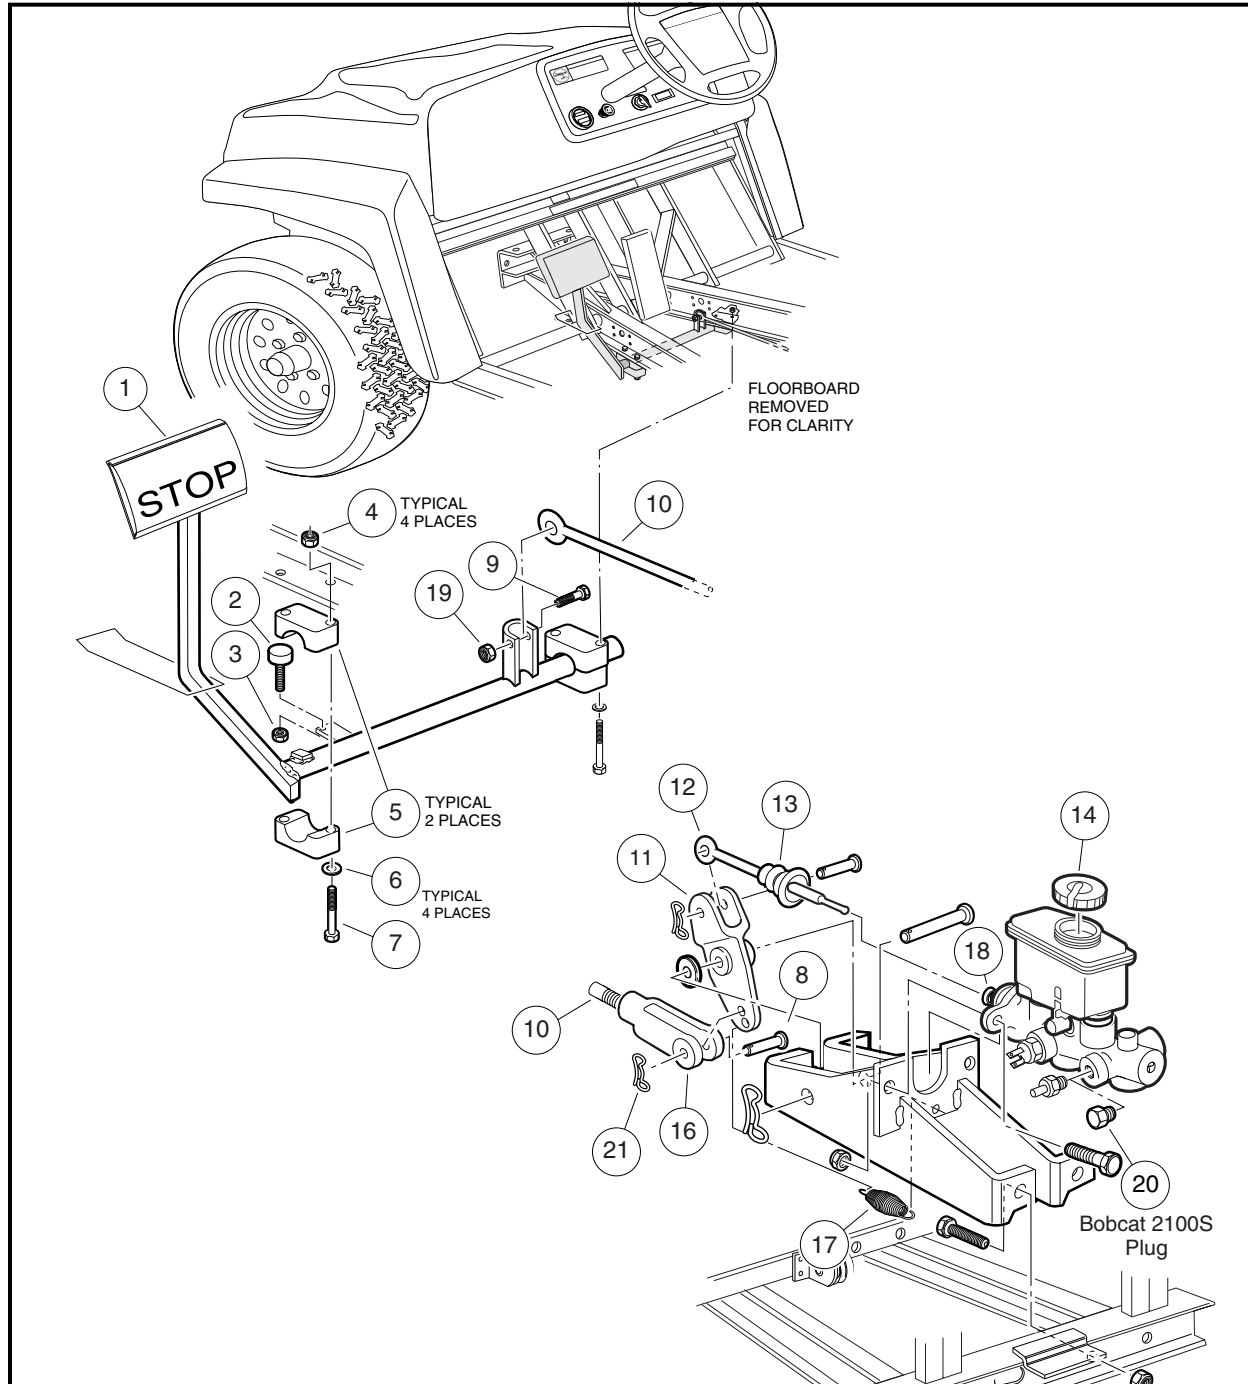
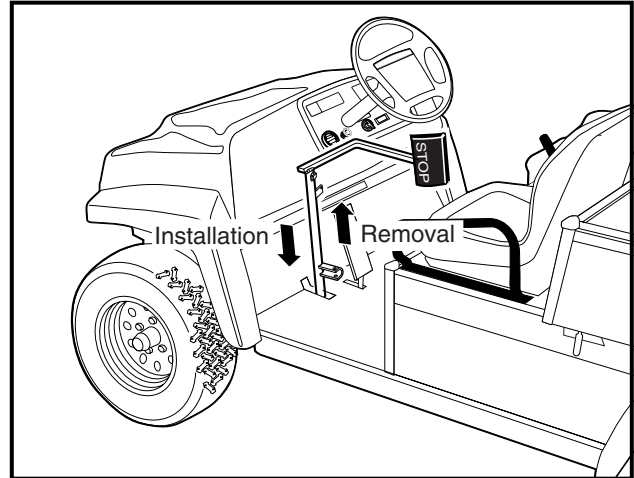
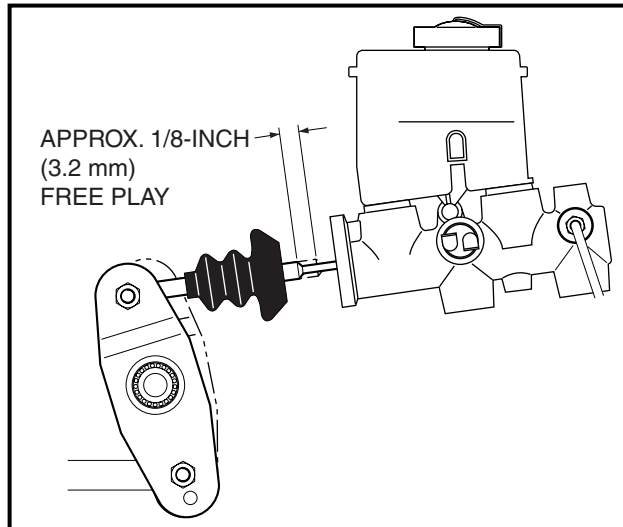

Figure 5-1 Brake Pedal Assembly
Figure 5-3 Brake Pedal Weldment Through Floor
Figure 5-6 Push Rod Free Play
- 5.1. Remove the bolt (9) and nut (19) (Figure 5-1, Page 5-2).
- 5.4. Lift pedal assembly (1) through the floorboard (Figure 5-3, Page 5-3).
1. Insert the brake pedal assembly (1) through the top side of the floorboard (Figure 5-3, Page 5-3) and install the brake pedal stop bumper (2) and nut (3) (Figure 5-1, Page 5-2) but do not tighten.
2. Position and attach brake pedal assembly and mounting blocks (5) with bolts (7), washers (6), and lock-nuts (4). Tighten to 70 in-lb (7.91 N·m) (Figure 5-1, Page 5-2).
3. Attach the equalizer rod (10) to the brake pedal assembly (1). Tighten to 17 in-lb (1.9 N·m).
2. Remove the brake rod clevis pin (8) and bow tie locking pin (21) from the brake push rod clevis (16) and bell crank (11) (Figure 5-1, Page 5-2).
8. Adjust the clevis (16) by rotating it so that the clevis pin (8) can be placed through the clevis (16) and the bottom hole in the bell crank assembly (11) (Figure 5-1, Page 5-2). See following NOTE.
**NOTE:** The spring (17) should not be under tension while the brake pedal is at rest.
9. Attach the bow tie locking pin (21)
10. There should be at least 1/8-inch (3.2 mm) of free play (at the push rod) before the push rod begins to depress the master cylinder piston (Figure 5-6, Page 5-4). See following NOTE.
**NOTE:** Brake pedal free play is the distance the push rod (12) travels before the master cylinder piston (18) is depressed (**Figure 5-1, Page 5-2**). Also see **Figure 5-6, Page 5-4**.